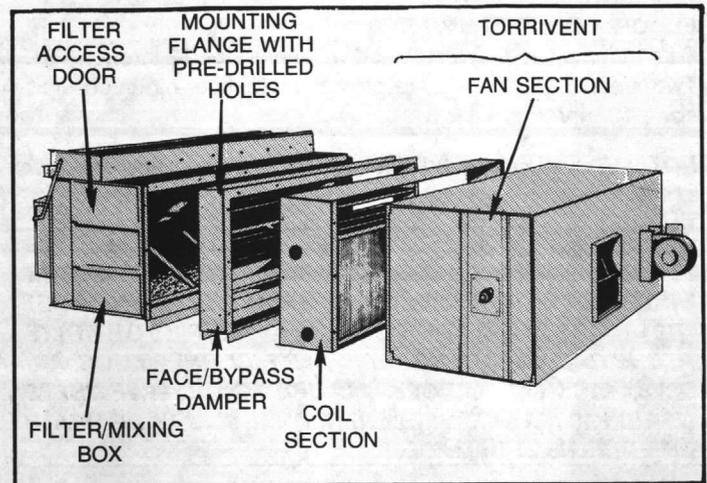

FIGURE 5 - Exploded View of a Horizontal Floor Unit and Accessories
2. Apply the provided sealing tape over the bolt holes of the flange that will be used connect the fan and coil sections. See Figure 5.